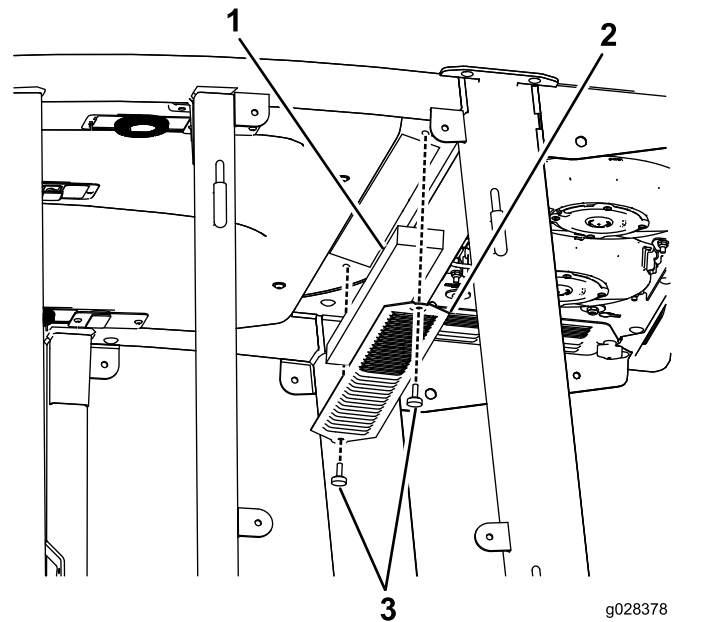
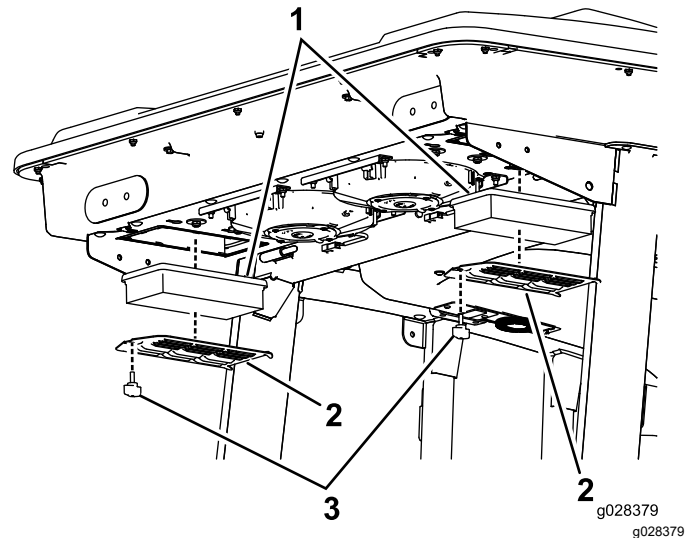
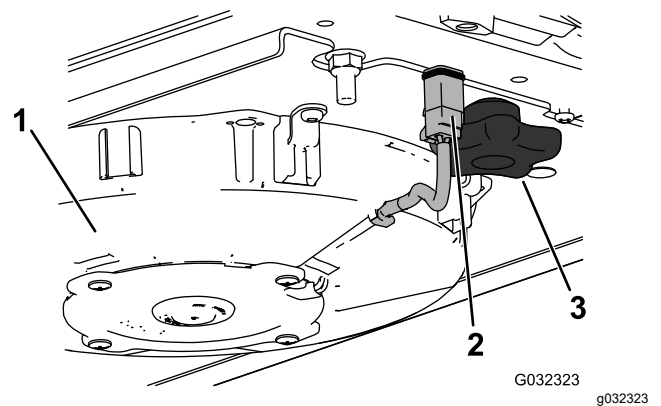
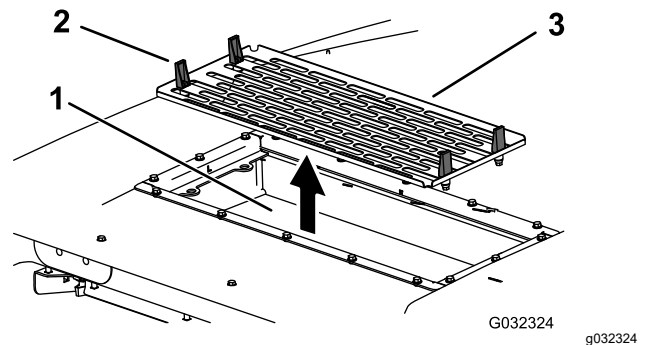

Figure 145
Figure 146
Figure 148
Figure 149
1. Remove the screws and grates from both the in-cab and rear cab air filters (Figure 145 and Figure 146).
4. Remove the air filters (see Figure 146).
6. Install the air filters, screen, and fan assembly (Figure 146, Figure 148, and Figure 149).
7. Connect the wire for each fan (Figure 148).